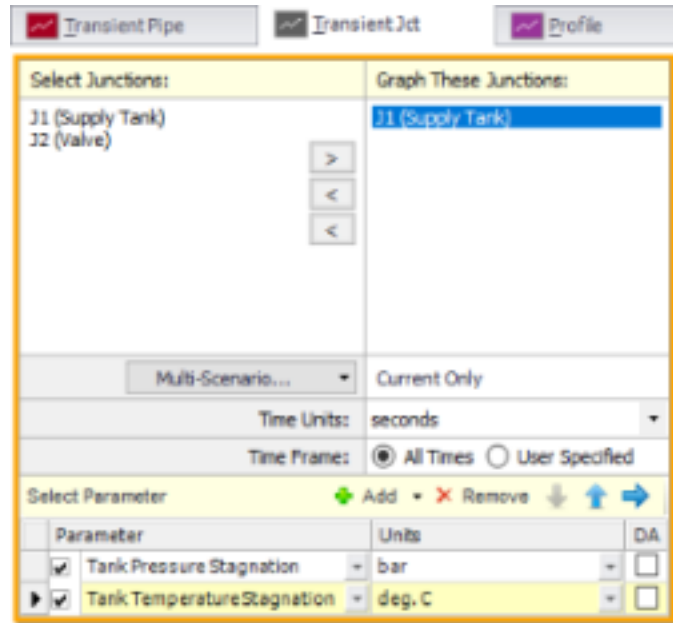

Figure 2.30 Graph Parameters window for the Transient Junction graph
- **Click the Transient Jet tab** on the Graph Control tab of the Quick Access Panel (Figure 2.30). Add the J1 (Supply Tank) junction.